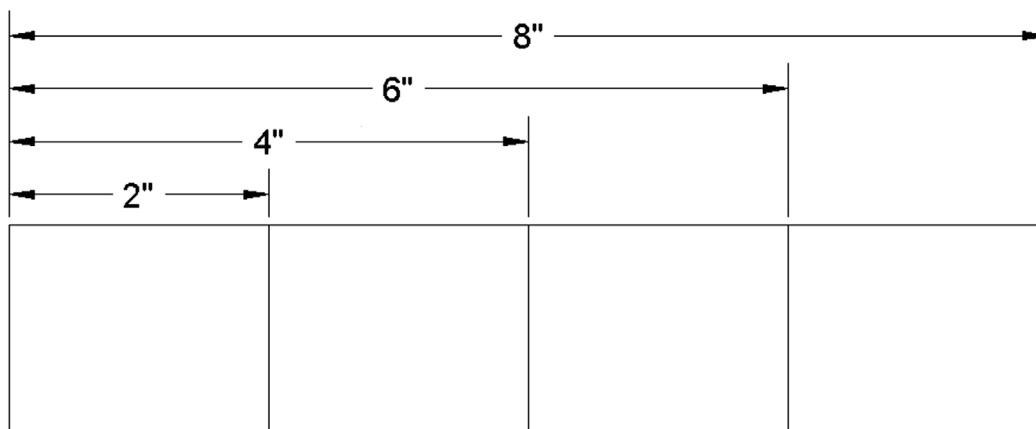

FIGURE 6.12 Baseline dimensions result.
Step 3. You can continue this until you run out of objects to dimension; at that point, just press Esc. Your result is shown in Fig. 6.12.